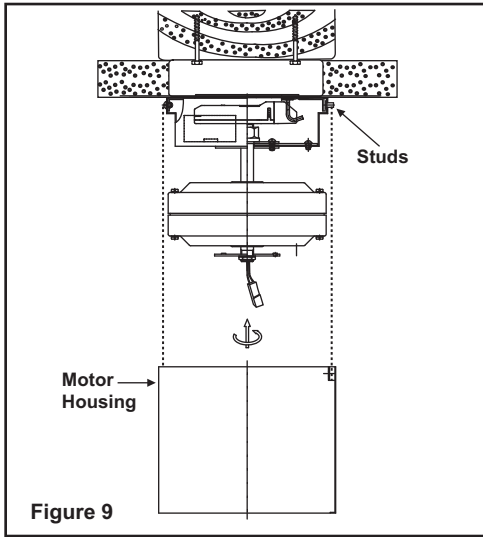

Figure 9
**Step 2.** Raise the motor housing up against the mounting bracket, the four supports inside the housing should be placed against the four studs on mounting bracket, twist the housing clockwise until snug. (Fig. 9).